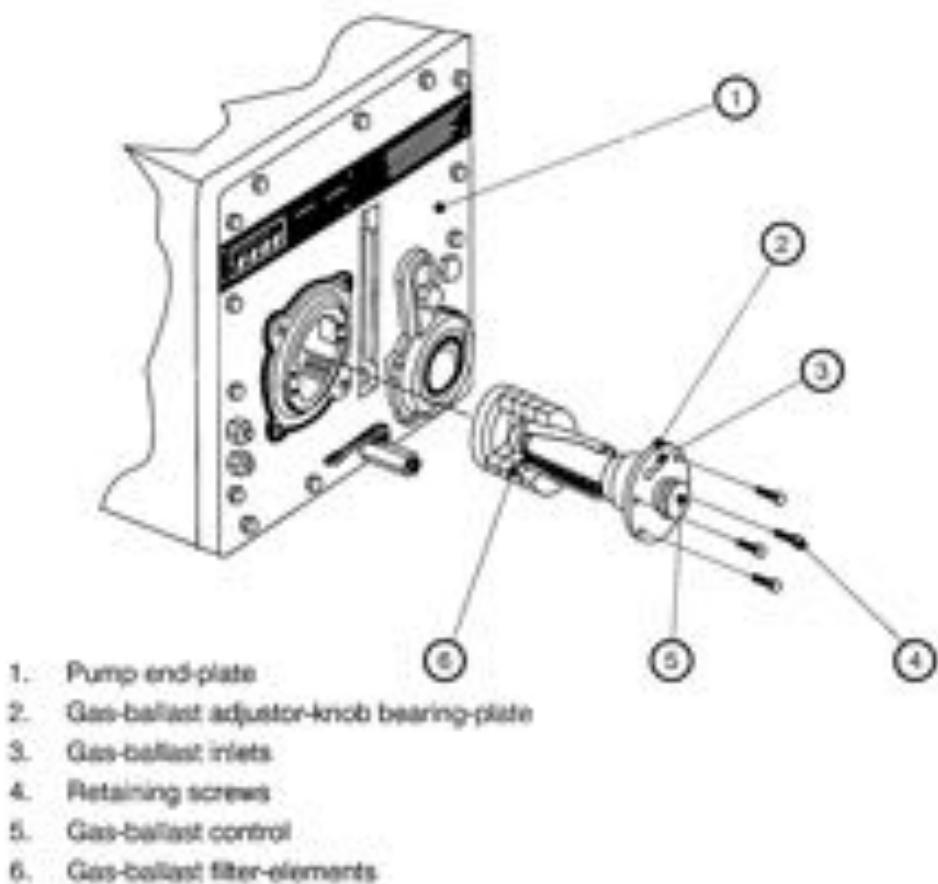

Figure 7 - Remove and replace gas-ballast filter-elements
You must replace the gas-ballast filter-elements every time you change the oil in the pump (see Figure 7).
3. Unscrew and remove the four retaining screws (4) securing the gas-ballast adjustor-knob bearing-plate (2).
4. Withdraw the adjustor-knob bearing-plate from the pump end-plate (1).
5. Replace the felt filter-elements (6). There are five for EIM175S/275S (see Figure 7) and two for E2M175S/275S pumps. Clean the assembly before re-fitting; new filter-elements by washing in a suitable cleaning solution. Allow the assembly to dry.
6. Fit the filter-elements. Replace the assembly and secure with the four retaining screws (4).